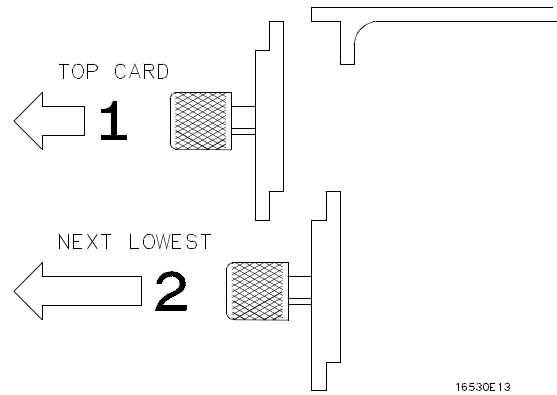

Figure A-1. Endplate Overlap (Removing)
- c. Starting **from the top**, begin pulling card(s) and filler panel(s) out half way. See figure A-1.